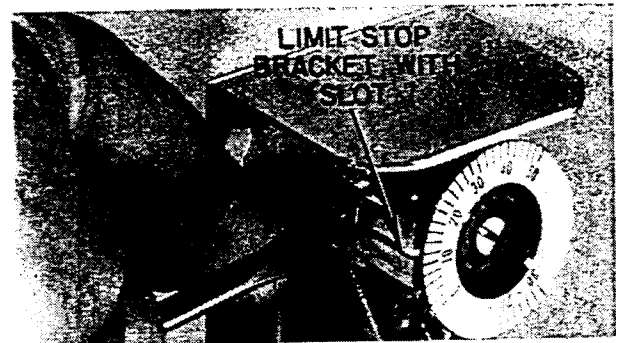

Fig. 9 — Sliding stop to front of thermostat to set limit stop. Screwdriver slot range adjustment is illustrated.
3. Slide dial stop to front of control (toward dial) against step behind dial, see Fig. 9. NOTE: Sometimes an exact stop setting is not possible and the stop must be set to the closest step corresponding to the dial setting.